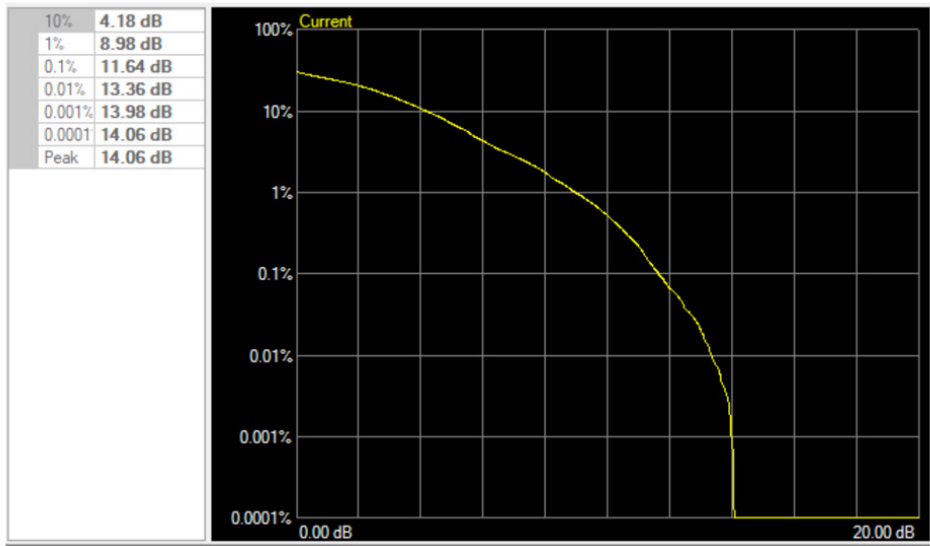

Figure 2: 5G CCDF Plot/PAR Test Model 2a
3rd Generation Partnership Project (3GPP) is the standards development body for mobile communications. Successive generations 3G, 4G to the current 5G chronicle this expansion of spectrum bandwidth. 3GPP defines the test models (TM) or modulation profiles for testing linear performance of user equipment (UE) and base station (BS), and by extension the devices used in those systems. 5G modulation schemes for both uplink and downlink range from channel width of 5 to 100MHz with peak to average ratios (PAR) up to 14dB. See Figure 2 below.